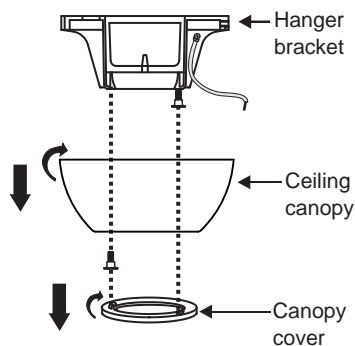

Fig. 5
Step 1. Remove the decorative canopy bottom cover from the canopy by turning the cover counter clockwise. (Fig. 5)
Step 2. Remove the hanger bracket from the canopy by removing (and save) one of the two screws. Loosen the remaining screw by a half turn. (Fig. 5)